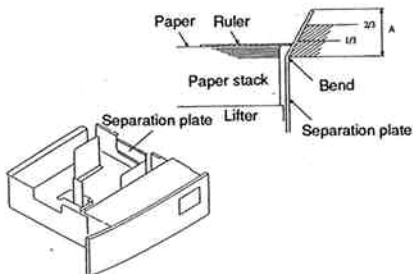

Figure 4-331b
- 2) Place a ruler or the like on the paper stack, and check the position in relation to the separation plate; see Figure 4-331b.